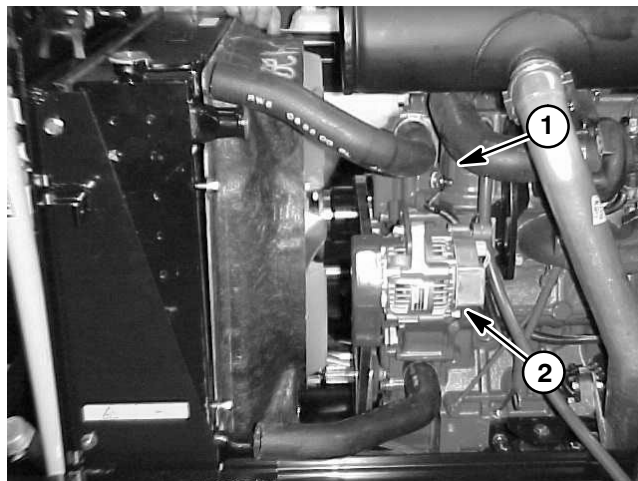

Figure 32
The dual temperature switch is attached to the engine near the alternator on the water flange attached to the engine cylinder head (Fig. 32). Two (2) electrical harness wires (a blue wire and a yellow wire) are attached to the switch.